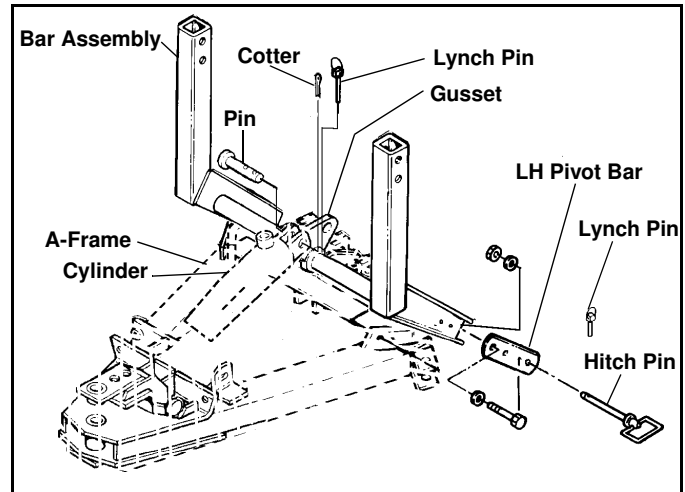

Figure 3
6. Attach the upper end of the Lift Cylinder to the 3/4" hole in the Gusset on the Cross Tube of the Lower Bar Assembly, using the Clevis Pin, Cotter Pin and Lynch Pin previously removed in Step 5. (See Figure 3)